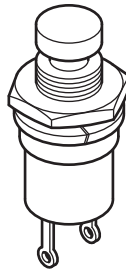

Fig. 16
- 12 (a) Fig. 16 shows a push switch that could be either a PTM switch or a PTB switch, the two types are identical in size and colour.